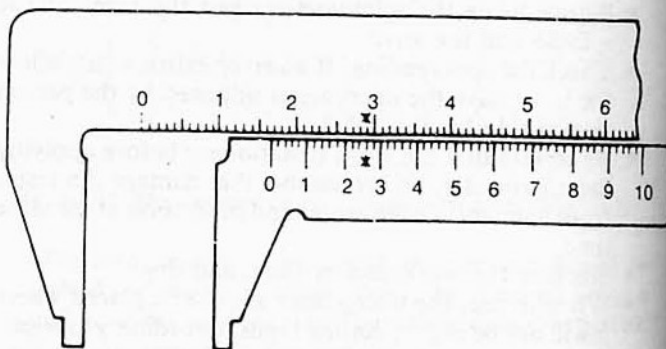

Figure 52 Reading of 16.26 mm on a vernier caliper
- 1 Read the number of millimeters to the left of the vernier scale zero (see Fig. 52): = 16.00 mm
- 2 Read the vernier scale numbers between zero and the graduation (marked *) in line with the fixed scale (2) = 0.2 mm